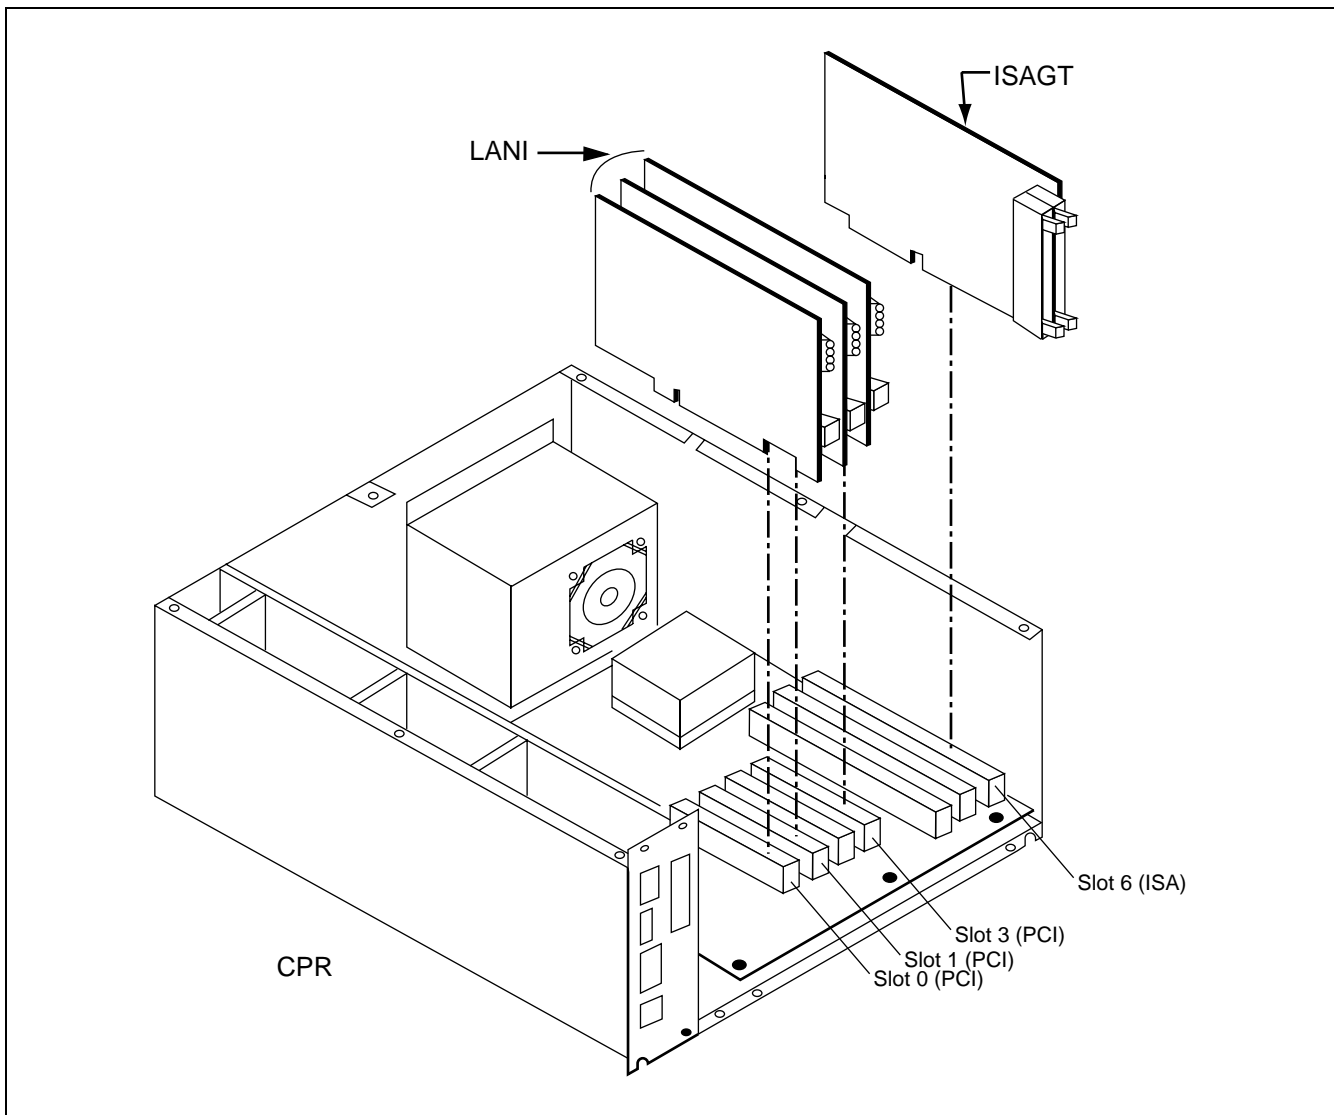

Figure 4-10 Insertion of ISAGT and LANI Cards
- (2) Insert the ISAGT (PZ-GT13) and LANI (PZ-PC19) cards into the following slots of the new CPR (refer to Figure 4-10):